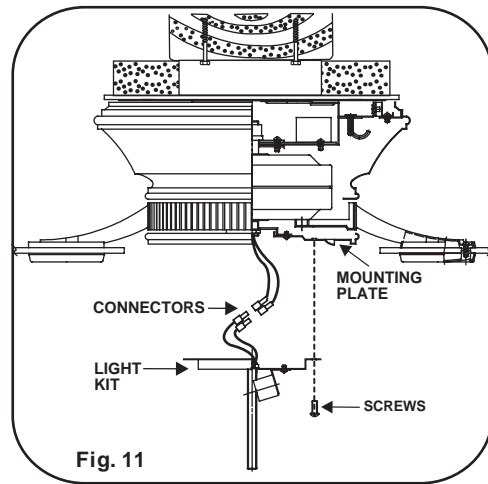

Fig. 11
1. Raise and hold the light kit close to the mounting plate and proceed to do the wire connections. Connect the white wire connectors from the light kit and fan, follow the same procedure with the black wire connector from the fan and the black wire connector from the light kit. (Fig. 11)
2. Carefully tuck all wire connections back into the light kit, then install the light kit onto the mounting plate with 3 screws provided. Be sure to tighten all screws. (Fig. 11)